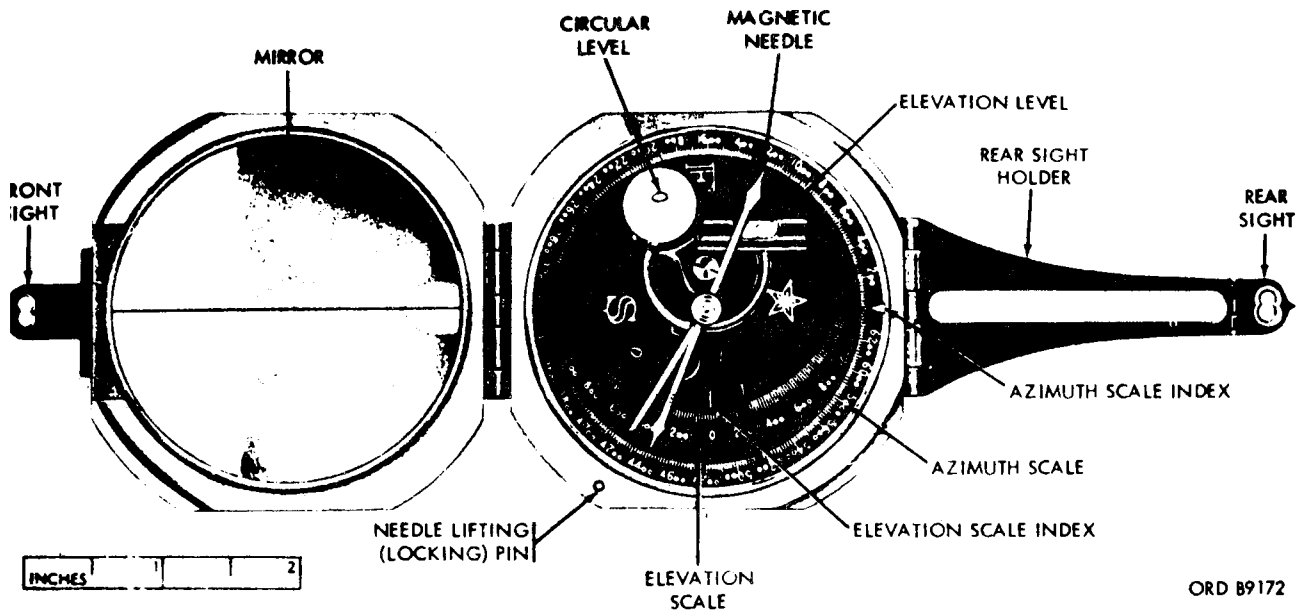

Figure 5. Compass M2.
taken when the bubble is centered in the circular level. The lifting mechanism includes a needle lifting (locking) pin (fig. 5) and a needle lifting lever. The lower end of the pin engages the lever and the upper end projects slightly above the body of the compass to engage the cover when it is closed, thereby automatically lifting the needle from its pivot and holding it firmly against the glass window.
- (1) The front sight (fig. 5) is hinged to a bracket on the cover of the compass and folds against the top surface of the cover.
- (1) Raise the rear sight holder approximately perpendicular to the face of the compass. Sight on the object through the opening in the rear sight holder (fig. 5) and through the window in the cover. Keep the compass level and raise or lower the eye along the opening in the rear sight holder until the black center line of the window bisects the object and the opening in the rear sight.